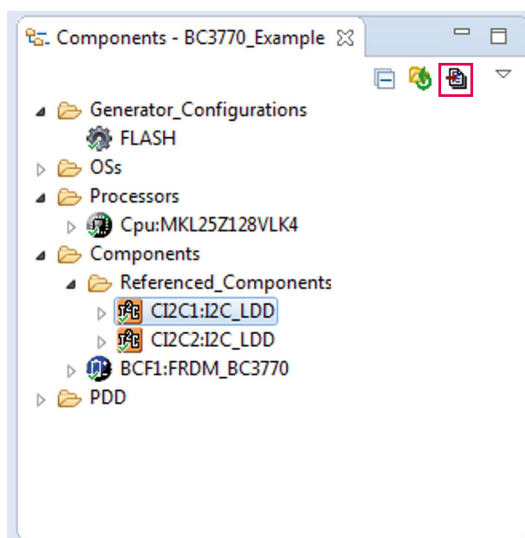

Figure 17. Generating the driver code
1. Click on the **Generate Processor Expert Code** icon in the upper right corner of the **Components** panel (see Figure 17).